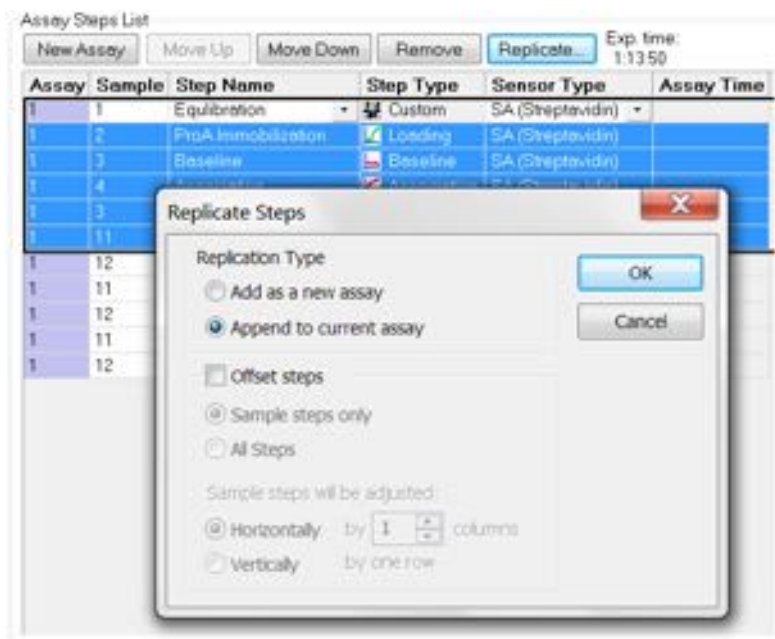

Figure 9-37: Replicating Assay Steps by Appending
1. In the **Assay Steps List**, select the step(s) to copy and click **Replicate** (for example, in Figure 9-37, step rows 1–4 are selected).
2. In the **Replicate Steps** dialog box (see Figure 9-37), click the **Append to current assay** option.